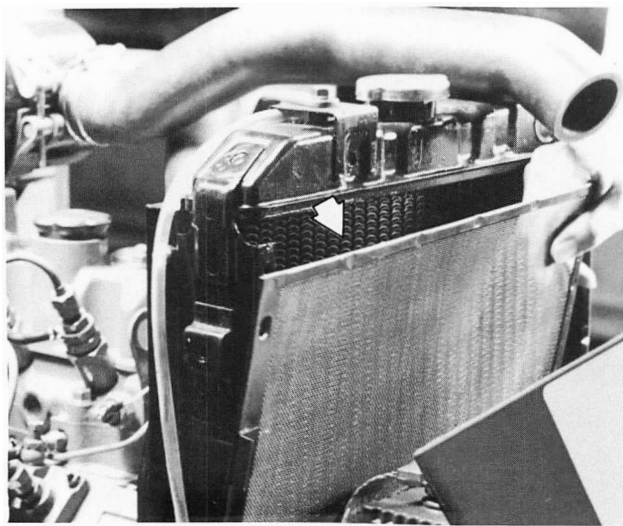

Figure 48 – Radiator Screen
5. Clean the radiator front screen Figure 48.